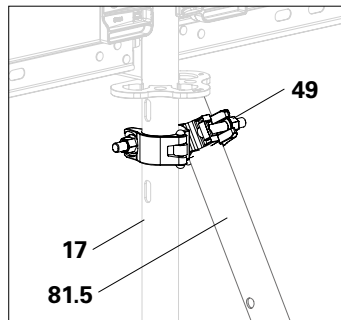
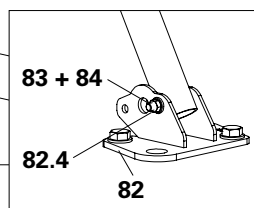

Fig. C4.05a
Fig. C4.05b
4. From the second scaffold level, fit the inner tube onto the outer standard (17) using a swivel coupling (49). Push the coupling as close as possible to the rosette and tighten. (Fig. C4.05a)
6. Fit the inner tube (81.2) onto the rear hole (82.4) of the base plate by means of bolts (83) and nuts (84).
7. Fix Base Plate EWB (82) to the substrate. (Fig. C4.05b)